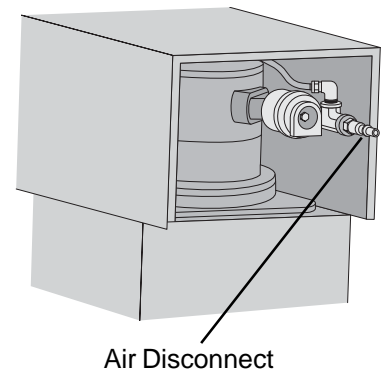

Figure 2.0-1
3. In the event of a ruptured or leaking hydraulic hose, **IMMEDIATELY RELEASE THE TRIGGER AND DISCONNECT THE AIR LINE**, at the air coupler, from the PowerPak (see Figure 2.0-1). Never use your hands to grasp a leaking hose under pressure. The force of escaping hydraulic fluid could cause serious injury.